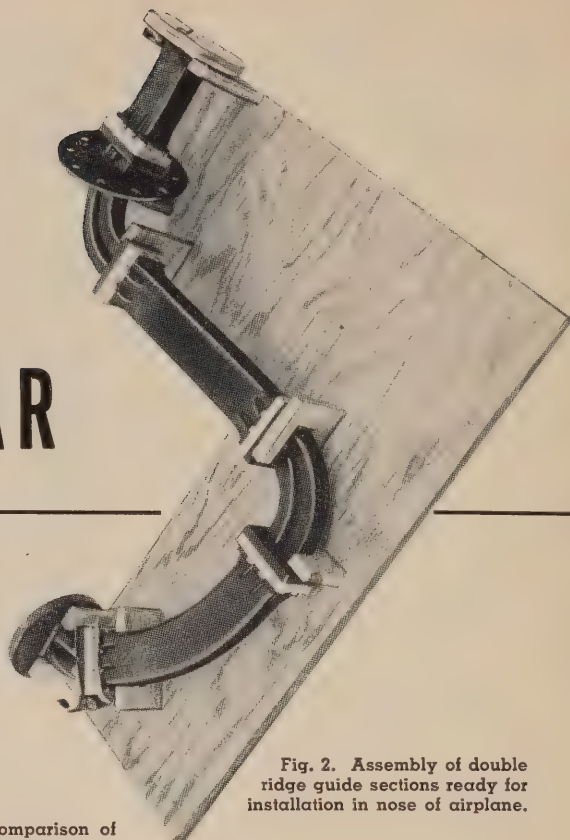

Fig. 2. Assembly of double ridge guide sections ready for installation in nose of airplane.
Figure 2 shows an installation currently in production which is composed of three rigid sections and three flexible sections. All the components of this installation, including the RT unit, are mounted in the nose of the airplane. The flexible sections serve a twofold purpose: they permit freedom of motion in order to allow for (1) tolerance build-up in mating equipment and (2) excursion of shock-mounted equipment (RT unit) under vibration.
Possibly a more representative installation would be one designed to connect the RT unit mounted in the standard radio equipment rack with the antenna in the nose of the airplane. Such an installation would be composed of two flexible sections, one mating with the RT unit and the other with the antenna, with a rigid run between the two flexible sections; the length of this run is dictated by the type of airplane. These rigid sections may have bends or twists so that the wave guide routing follows the most direct path possible. Pressurized bulkhead fittings (Fig. 2) may be used to make air seals when it is necessary for the wave guide installation to go through a pressure bulkhead. Quick disconnect clamps also have been designed for use with this wave guide where space limitations make it either impossible or impractical to use screws, or where it is necessary to have an easily opened joint for servicing or testing a unit of the installation such as the antenna.